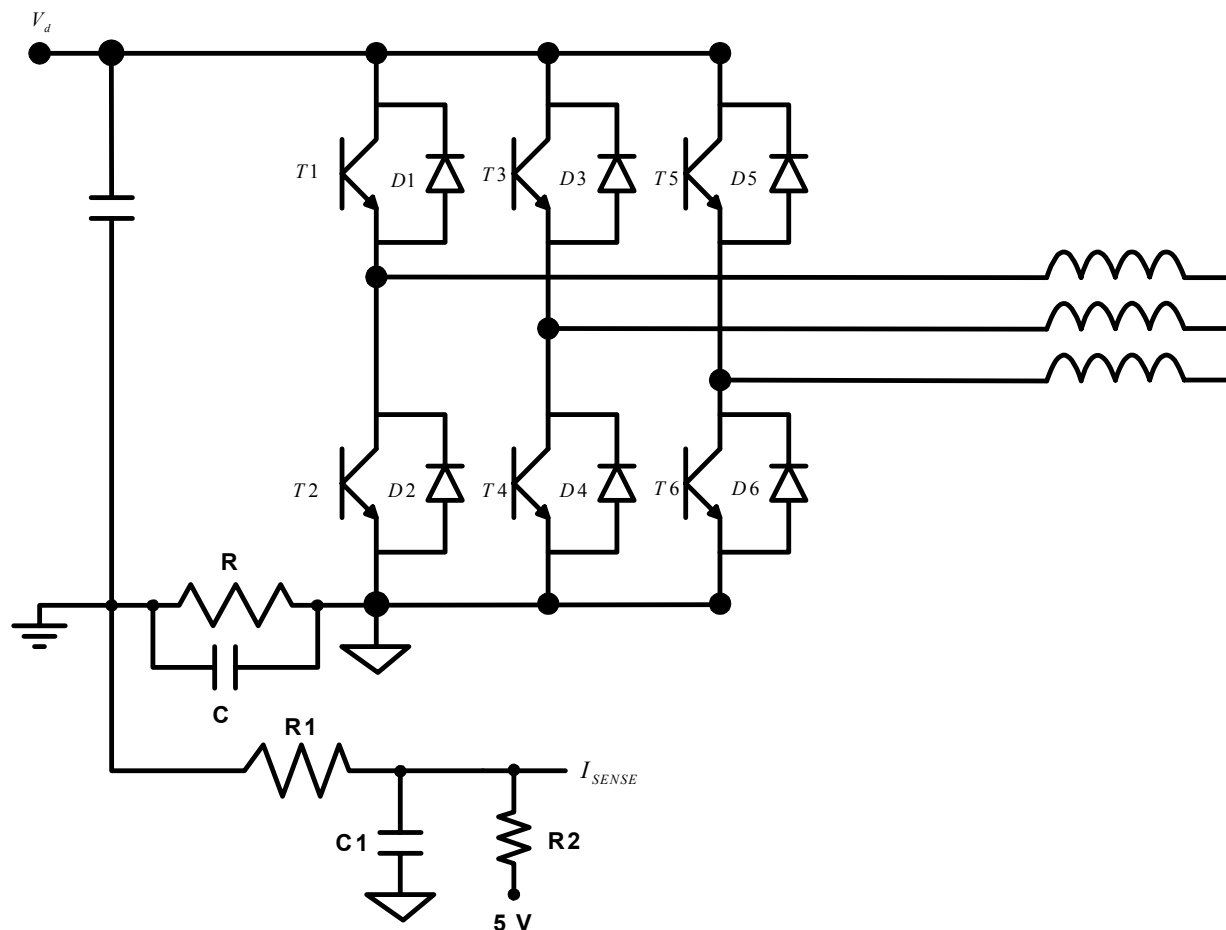
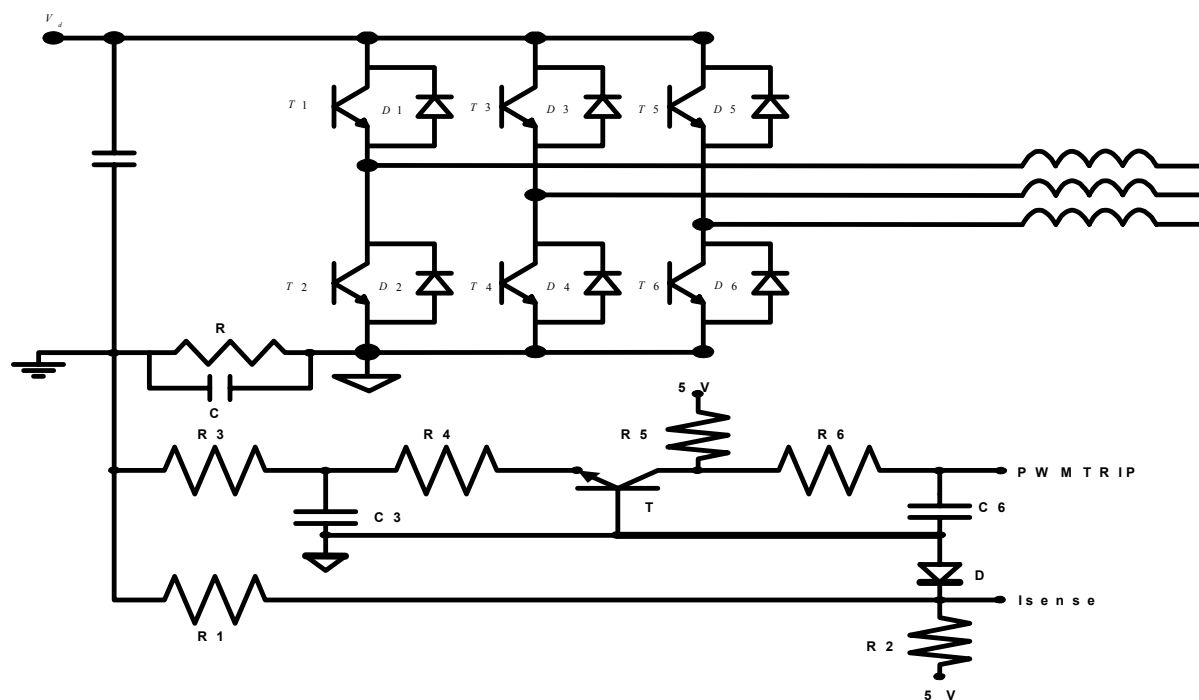

Fig.2. Recommended I_{SENSE} circuit
Fig.3. Another schematic for I_{SENSE} circuit
Noise entering the controller through the I_{SENSE} pin can be very damaging, because it may cause fault shutdowns very frequently and wrong A/D conversions. A schematic that diminishes the noise influence is presented in Fig.2.
Another approach is the one presented in Fig.3. Instead of using the I_{SENSE} related PWM shutdown system, the protection offered by $\overline{PWMTRIP}$ pin is utilized. It may be observed that the circuit for I_{SENSE} pin is considered only to measure the current through the shunt resistor R and contains the resistor $R1$, the diode D and the pull-up resistor $R2$. When the voltage on the shunt resistor R goes below the forward voltage of the diode D (around 600 mV depending on diode type), the I_{SENSE} pin will be clamped to this voltage. The resistor $R1$ limits only the current that will pass through the diode in the case of a shutdown. $R2$ has the same role as in the previous schematic that is to diminish the noise influence in producing a PWM shutdown. The circuit related to $\overline{PWMTRIP}$ pin behaves as follows: when the voltage on the shunt resistor R is lower than the base emitter voltage of the transistor T (around 600 mV depending on transistor type), the transistor is turned off and the voltage at the $\overline{PWMTRIP}$ pin is 5 V because of the pull up resistor $R5$. Of course, the filter $R6$, $C6$ protects this pin against noise. When the voltage on the shunt resistor R becomes lower than the base emitter voltage of T , the transistor begins to conduct and will put $\overline{PWMTRIP}$ at ground, causing the PWM instantaneous shutdown.
- the shunt resistor R should be placed as close as possible to the power devices T2, T4, T6 (see Fig.2 and Fig.3) in order to minimize the inductance between various traces. The capacitor C should be placed as close as possible to the resistor R .